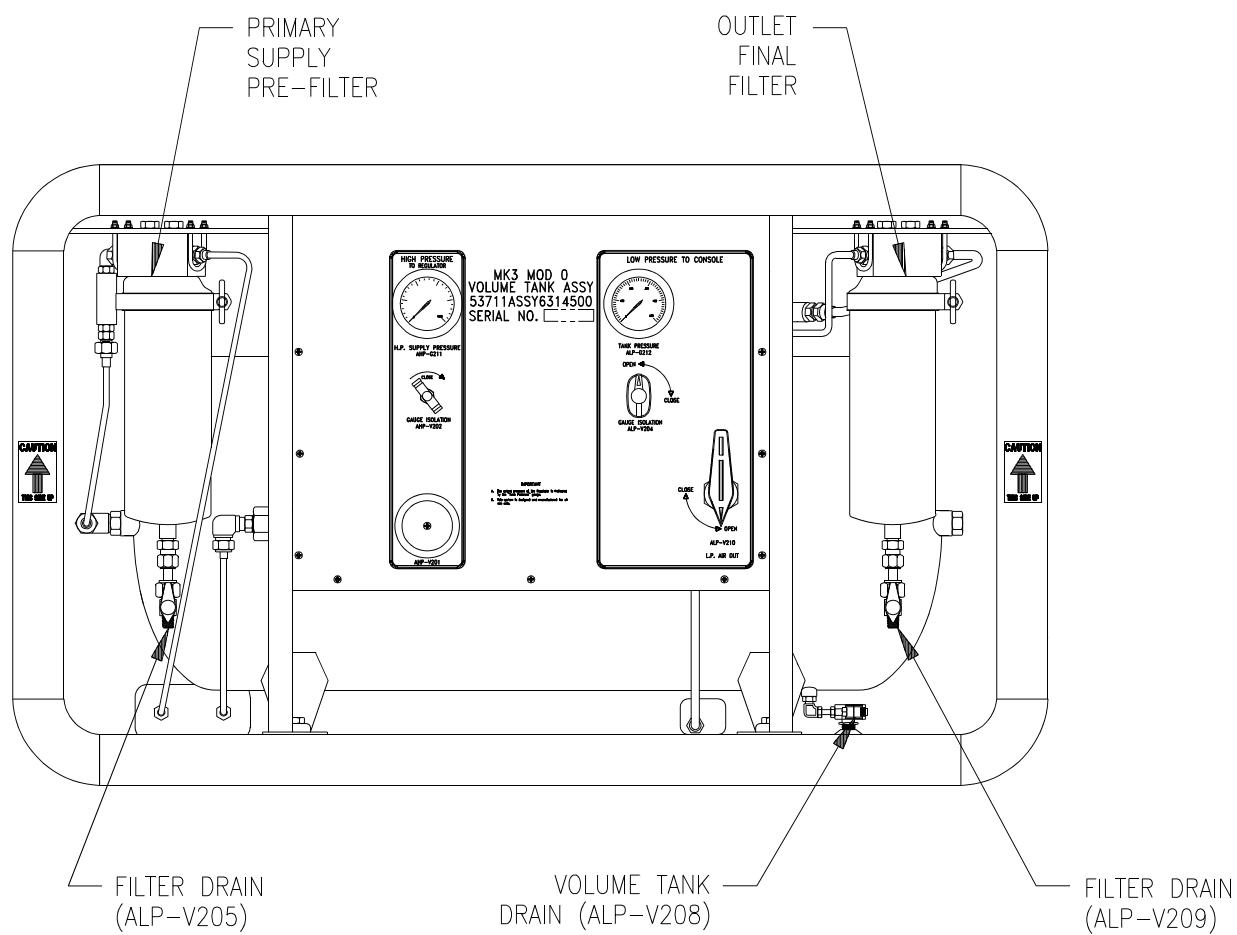

Figure 3-7. Volume Tank Assembly
3.3.3 VOLUME TANK ASSEMBLY. The volume tank assembly (Figure 3-7) primarily serves as a supply reservoir for compressed air. In addition, filters in the assembly remove moisture and contaminants from diver air before delivery to the control console assembly. LP air from the diesel-compressor assembly (Configuration 1) flows through a coalescent filter system mounted to the volume tank assembly frame. After filtration, the air passes through a check valve into the volume tank. HP air from the primary HP air supply flask rack assemblies (Configurations 2 and 3) flows through an in-line filter, through a regulator where it is reduced to LP air, and then into the volume tank. From the volume tank, LP air flows through a second frame-mounted coalescent filter and to a control valve for distribution to the control console assembly.